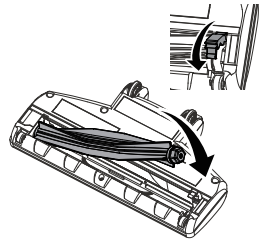

Fig.25
- Align the end to the brush drive first, then insert the other end correctly. When installed correctly, the brush roll should rotate freely. Lock the brush in place by closing the tab as illustrated (Fig.25).